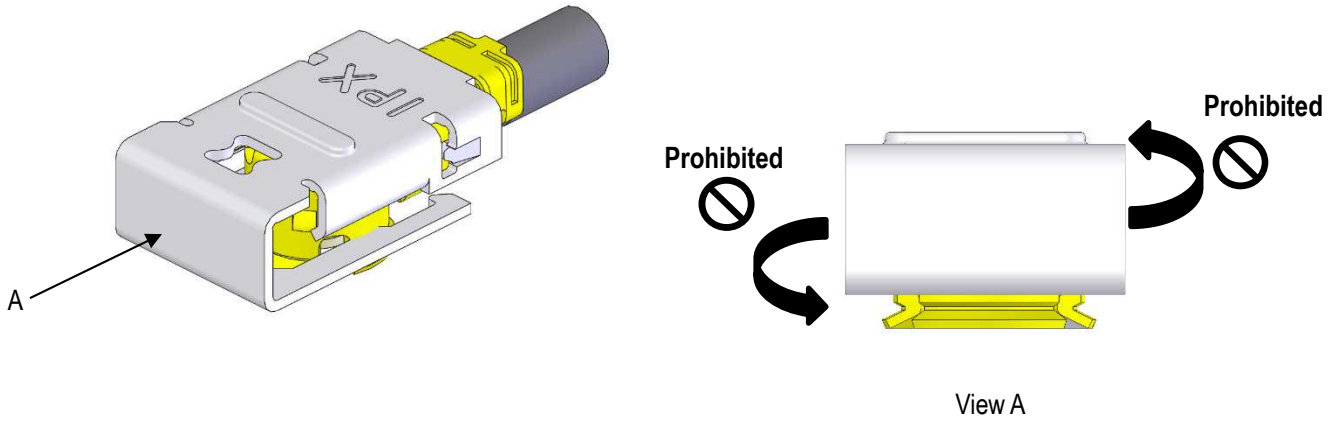

Fig.11
- In the case of figure 11, it has possibility to damage to the housing and come off from rece. connector.